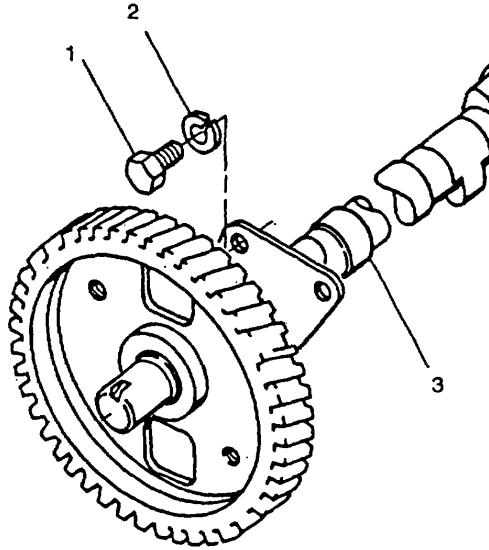
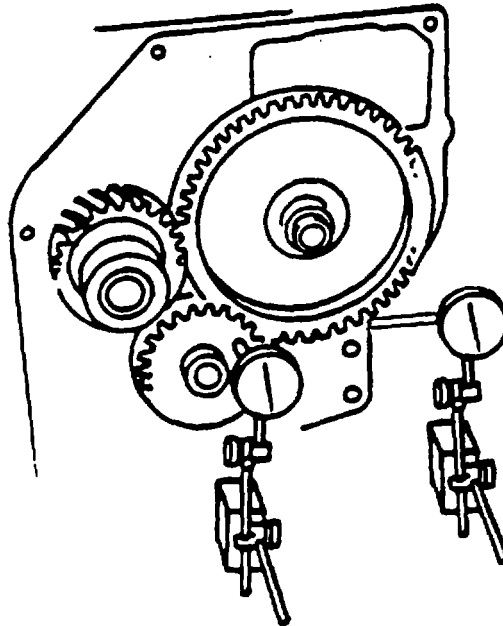

FIGURE 3-34. Camshaft Assembly
FIGURE 3-35. Measuring Gear Backlash and End Play
- e. Rotate camshaft until large holes in gear line up with two capscrews (1, FIGURE 3-34).
- f. Remove two capscrews (1) and lockwashers (2) securing thrust plate to crankcase; remove camshaft (3) from crankcase keeping it square at all times. Discard lockwashers.
- a. Carefully install camshaft (3, FIGURE 3-34) into crankcase keeping it square at all times. Take care to line up 'O' timing marks on crankshaft and camshaft gears exactly.
- b. Rotate camshaft (3) until large holes in gear line up with bolt holes in thrust plate.
- c. Turn thrust plate as necessary to install two capscrews (1) and new lockwashers (2). Tighten capscrews (1) to 75-80 in-lbs (8.4 to 9.0 Nm).
- (1) Push camshaft towards flywheel end.
- (2) Install a dial indicator in position against gear wheel.
- (3) Zero the dial indicator.
- (4) Move camshaft as far as it will go towards gear end. Movement recorded on the dial indicator should be 0.004 to 0.011 in. (0.10 to 0.28 mm)
- e. Measure timing gear backlash (FIGURE 3-35) as follows:
- (1) Set a dial indicator on timing gear to be measured.
- (2) Hold gear to be checked and adjoining gear stationary.
- (3) Move gear tooth side to side in backlash. Record indicated backlash Total Indicator Reading (TIR). Standard TIR is 0.004 - 0.007 in. (0.10 to 0.17 mm) with a limit of 0.012 in. (0.30 mm)
- (4) If TIR exceeds limit, replace gear.